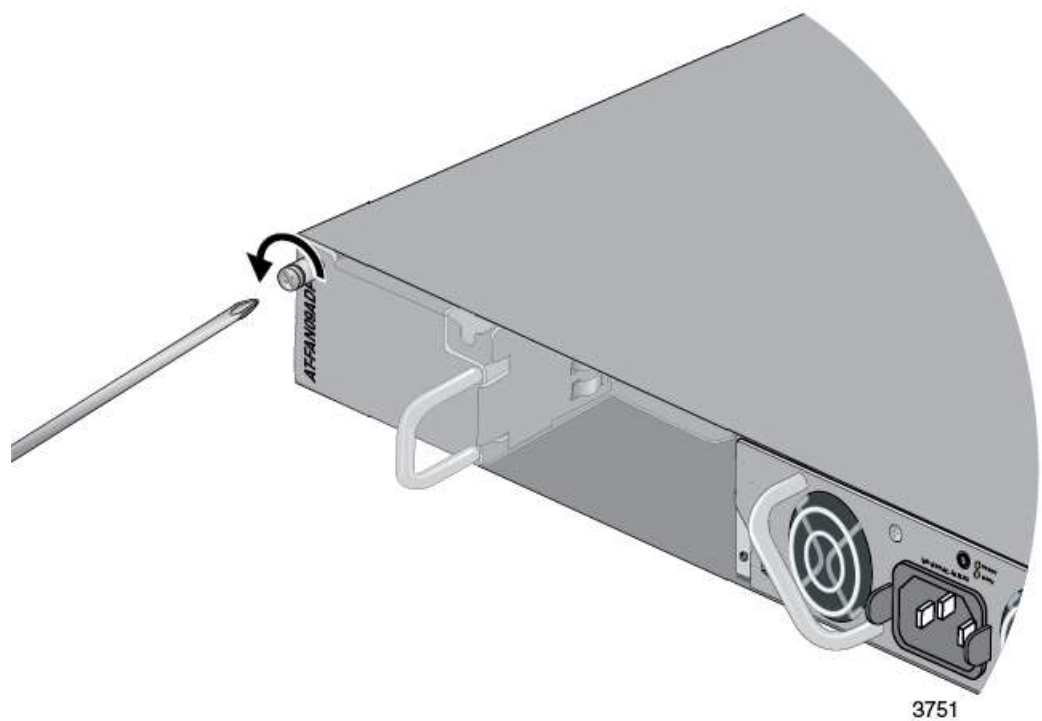

Figure 30. Loosening the Captive Screw on the AT-FAN09ADP Module
5. Use a cross-head screwdriver to loosen the captive screw on the AT-FAN09ADP Module. Refer to Figure 30 on page 80.